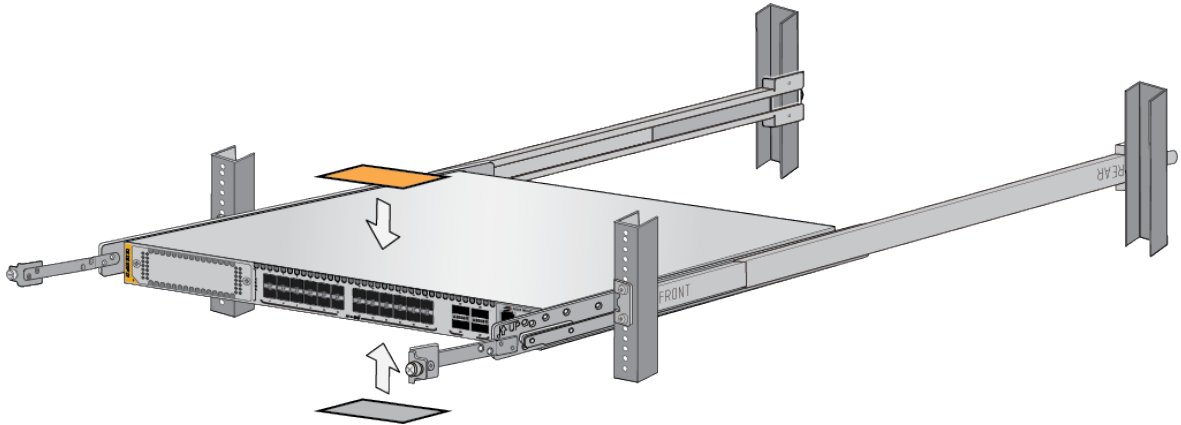

Figure 119. Affixing the Warning Labels
2. Affix the provided warning labels to the top and bottom of the switch, in locations immediately visible when removing the device from the rack. Refer to Figure 119 on page 189.